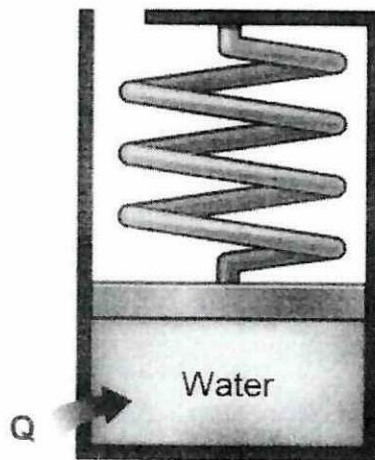

Figure Q3(b)
- (b) The spring load piston-cylinder device depicted in **Figure Q3(b)** is filled with 1 kg of water with 10% quality at 90°C. The device is then heated until the temperature reaches 250°C with a pressure of 800 kPa. Determine the total work produced during this process in kJ.